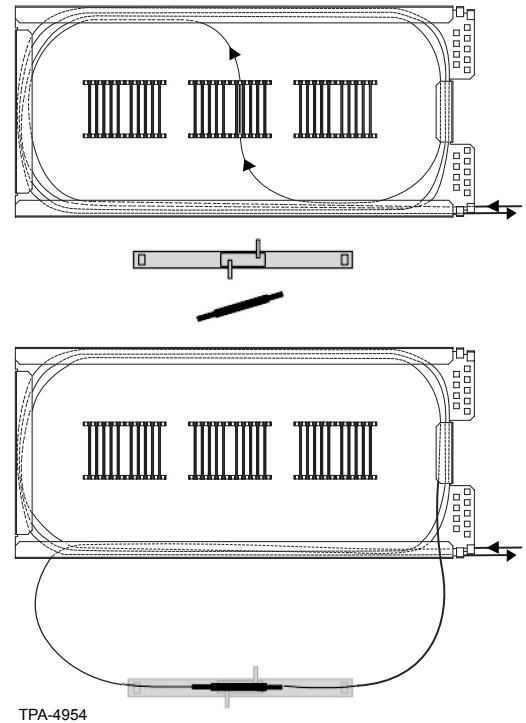

Figure 15
**IMPORTANT:** *Avoid putting torsional force on 900  $\mu\text{m}$  fibers being mechanically spliced (OSE-ST-4). Torsional, or twisting, forces can cause transmission failure at the connection after some time. The torsional force occurs when the splice is turned and the fiber is twisted as it is moved from the splice area and routed in a figure-eight layout in the splice tray. Rotate the fiber as little as possible when installing it into the tray (Figure 15).*